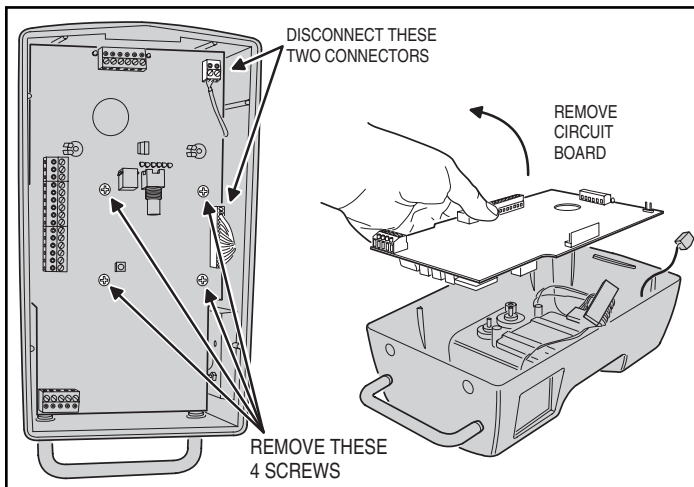

Figure 17. Removing the RE-1 Circuit Board
1. Disconnect the wiring harness connector and remove the antenna terminal block. Remove the four circuit board retaining screws and the RE-1 circuit board (see Figure 17).